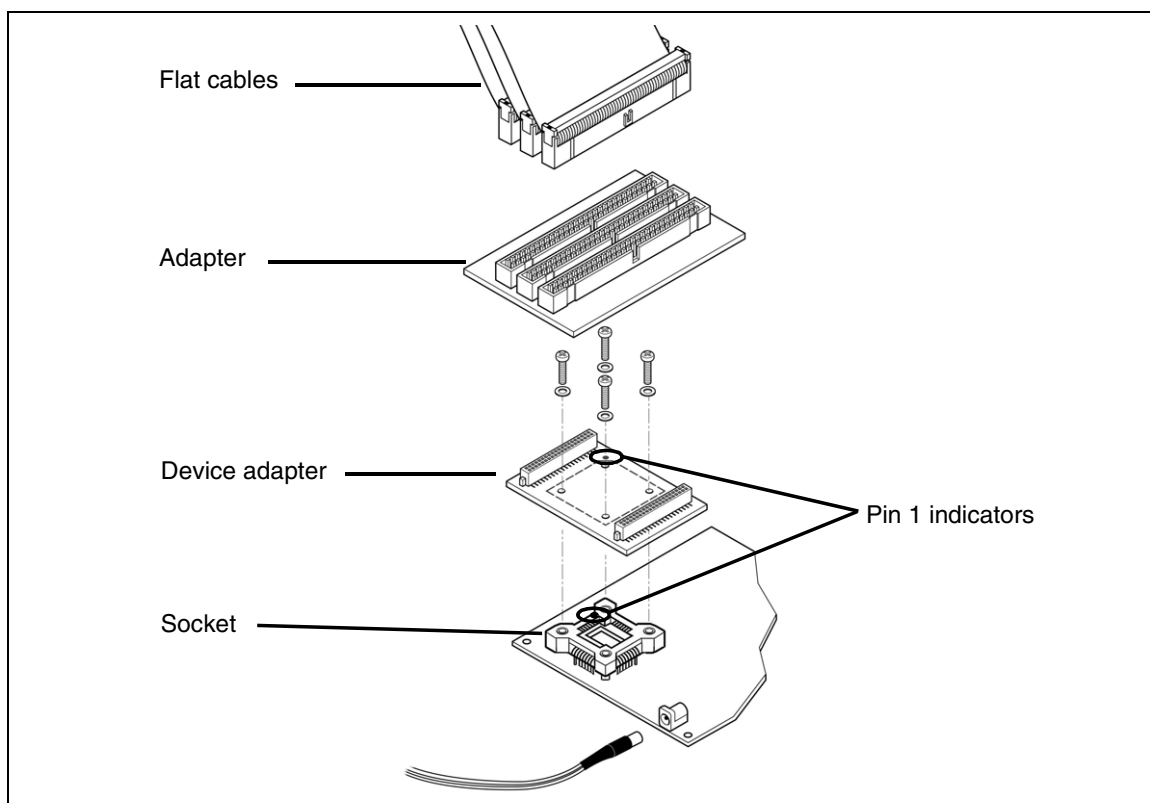

Figure 8: Connection for TQFP80
- 3 Connect the other end of each of the three 50-pin flat cables to the TQFP80/64/44 adapter (ref.: DB530), as shown in Figure 8.
- 5 Fix the device adapter (ref.: DB531) to the Yamaichi socket that is soldered on your application board, using the provided screws (see Figure 8). Ensure that the device adapter's pin 1 indicator is aligned with the socket's pin 1 indicator.
- 6 Connect the adapter to the device adapter as shown in Figure 8.